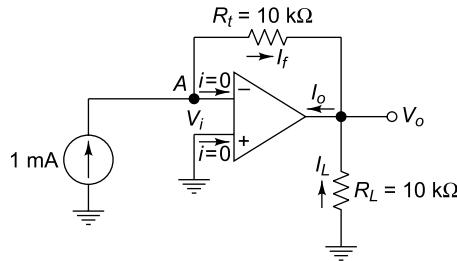

Fig. 5.13 Circuit of Ex. 5.8
5.8 Figure 5.13 shows an amplifier circuit. Determine the output voltage V_o and currents I_L and I_o .